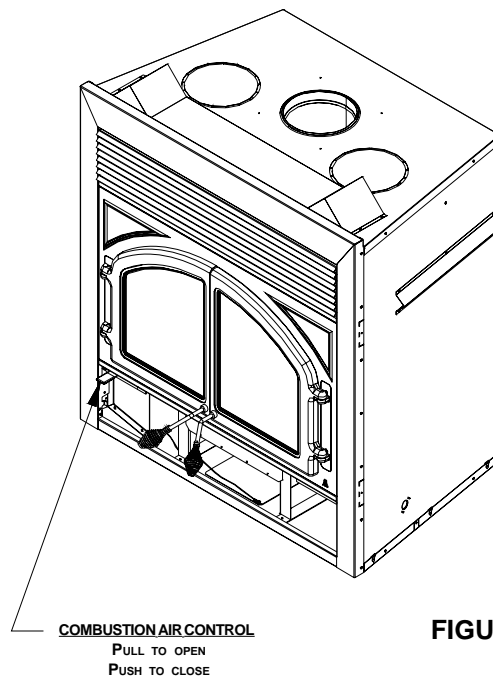

FIGURE 33
- Make sure the combustion air control (located below the left-hand side door, just above the bottom grille) is fully opened. This is accomplished by pulling forward on the slider combustion air control arm (see Figure 33 & 34). Open an adjacent window during the first 5 to 10 minutes if additional air is needed.